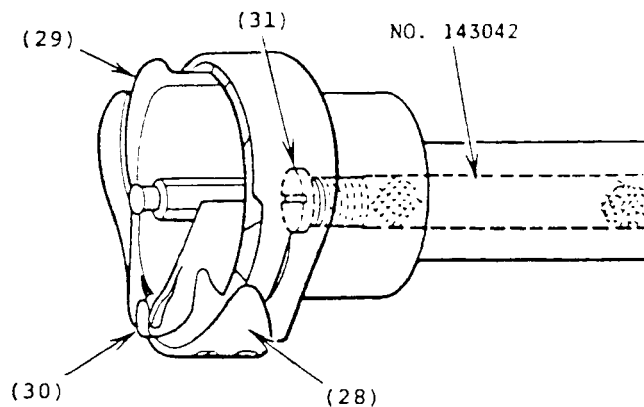

Fig. 17
Turn the sewing hook until the thread guard (28), is at the bottom, as shown in Fig. 17. Turn the bobbin case holder (29), Fig. 17 until the notch (30) is also near the bottom, as shown in Figs. 17 and 18. The sewing hook can then be removed from the hook shaft.
While the sewing hook is off the shaft, it is advisable to replace the oil filter 143042, Fig. 17 in the end of the hook shaft. Unscrew the filter from the center of the shaft at (31), Fig. 17 and replace with a complete new filter 143042.